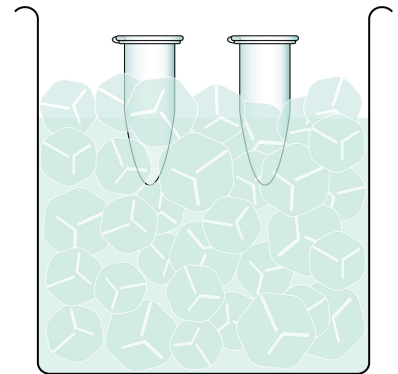

Fig. 19
14. Keep the tubes on ice for at least 30 minutes (Fig. 19).